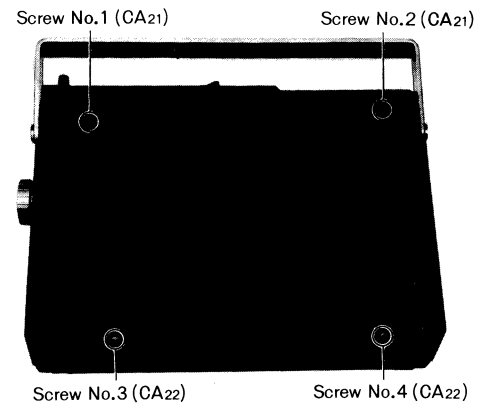

Fig. 1
1. Remove six (6) control knobs from cabinet.
3. Remove four (4) cover screws, nos. 1~4, as illustrated in fig. 1.